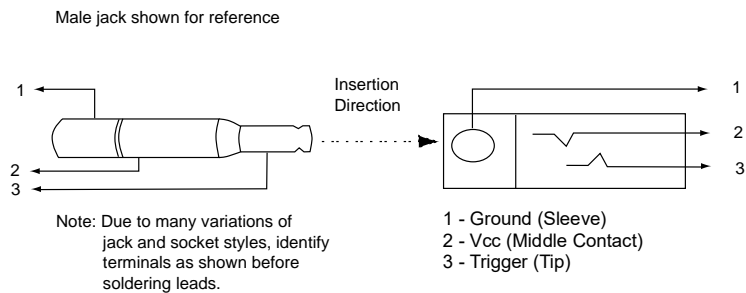

Figure 2-10 *Trigger Jack Connector Pins*
2. If using an external switch and applicable host cable, plug the trigger cable into the female stereo connector on the flying lead of the 9-pin D-connector. See Figure 2-10 on page 2-12 for connector pins.